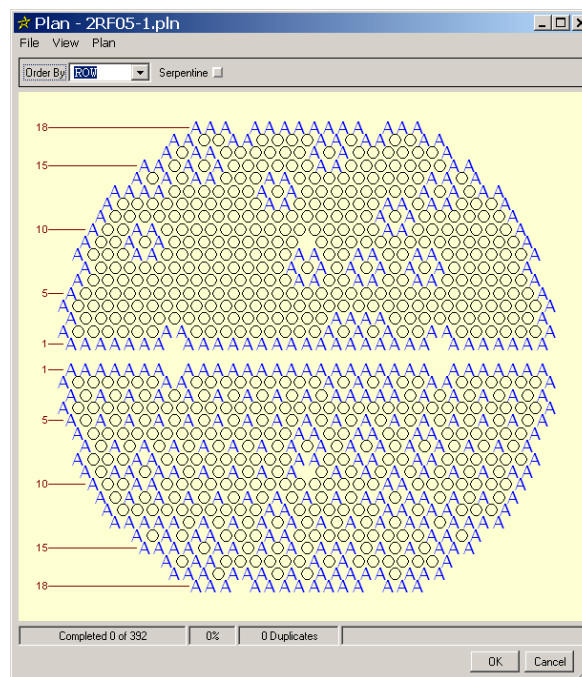

Figure 10-3. Plan Dialog with Plan Loaded in Acquisition
STEP 6: Click **Open**. The planned tubes appear with a blue letter “A” over each one as shown in Figure 10-3.